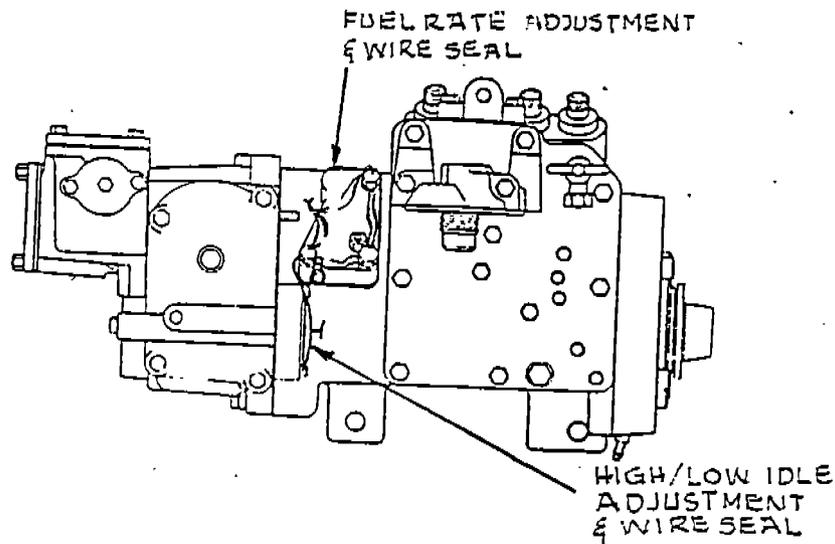

FIGURE 2- SEALED ENGINE ADJUSTMENTS
- (WEEKLY) 7. () The fuel injection rate adjustment mechanism and the engine governor setting are locked and sealed. (FIGURE 2) [4]*